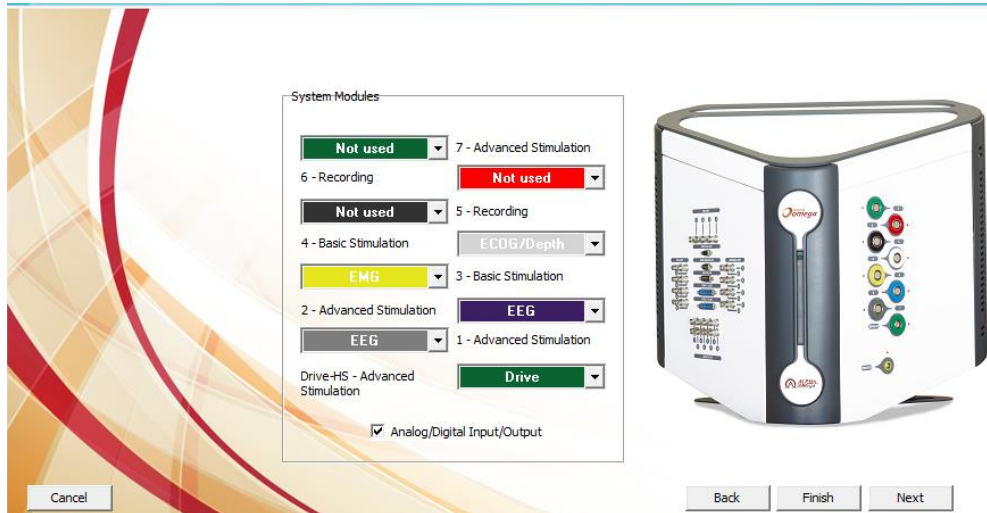

Figure 56: System Modules Window
System Modules Window (Figure 56) will appear.
3. **System Modules Window** (Figure 56) will appear with all the current Workspace settings.